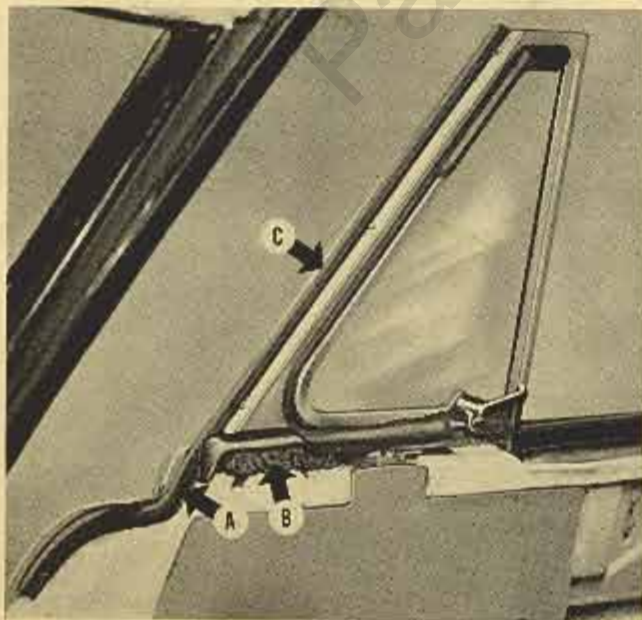

Fig. 3
Install the wide section (just above the corner of the curved section) of the weatherstrip into the lower retainer "A" Fig. 3. Flow some 3M weatherstrip cement between the weatherstrip and retainer. Coat the back of the weatherstrip, the new window wing weatherstrip retainer, and the corner of the door pillar with 3M weatherstrip cement. When the cement becomes tacky, press the weatherstrip firmly in place as shown in "C" Fig. 3.
7. Pack some dum-dum as shown at "B" Fig. 3 to close off and seal the opening between the upper door panel edge and the window wing frame front weatherstrip.